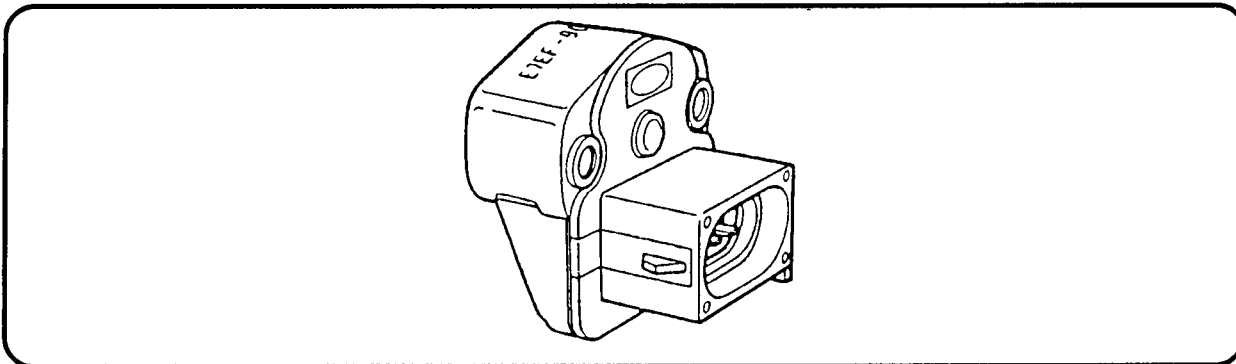

Figure 33
**Description:** On gasoline engines, the Throttle Position Sensor is a potentiometer mounted on the throttle body. The TPS detects the position of the throttle plate and sends this information to the processor assembly as a voltage signal (Figure 33).